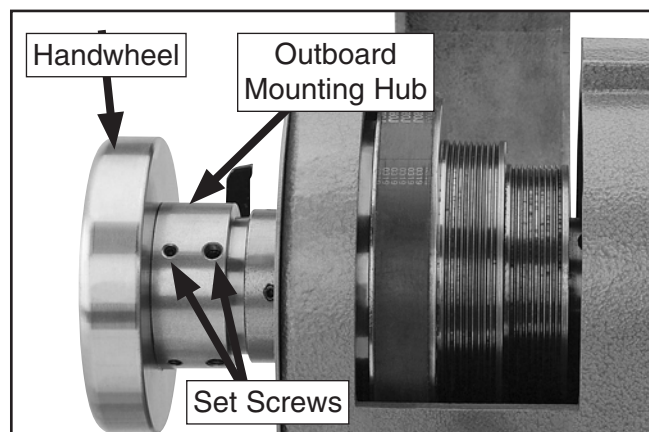

Figure 57. Outboard mounting hub location.
2. Loosen the outer set screws on the outboard mounting hub (see **Figure 57**), unthread the handwheel, loosen the inner set of set screws, then remove the mounting hub.